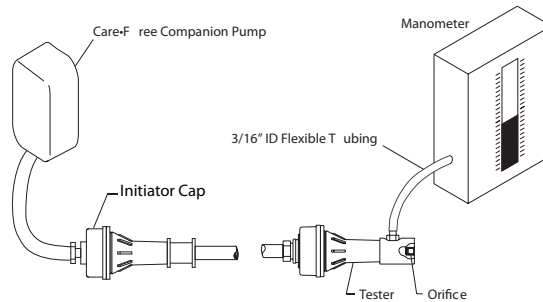

Figure 1—Pressure Test Set-up
2. Screw the pump's inflator cap onto the tester. Attach $\frac{3}{16}$ " ID tubing from the manometer to the fitting on the tester (See Figure 1).